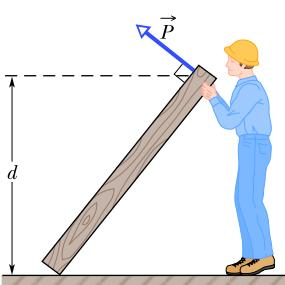

Figure 12.61 Problem 68.
- 68 BIO** A construction worker attempts to lift a uniform beam off the floor and raise it to a vertical position. The beam is 2.50 m long and weighs 500 N. At a certain instant the worker holds the beam momentarily at rest with one end at distance  $d = 1.50 \text{ m}$  above the floor, as shown in Fig. 12.61, by exerting a force  $\vec{P}$  on the beam, perpendicular to the beam. (a) What is the magnitude  $P$ ? (b)